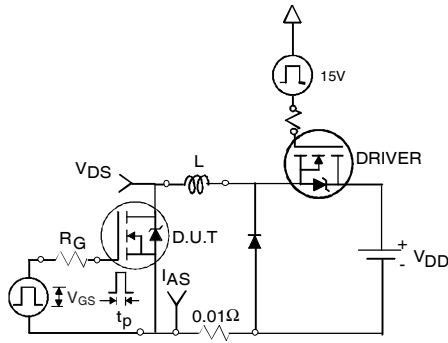

Fig 12a. Unclamped Inductive Test Circuit
- ③ Pulse width $\leq 1.0\text{ms}$; duty cycle $\leq 2\%$.
- ④ $C_{oss\text{ eff.}}$ is a fixed capacitance that gives the same charging time as C_{oss} while V_{DS} is rising from 0 to $80\% V_{DSS}$.
- ⑤ Limited by T_{Jmax} , see Fig.12a, 12b, 15, 16 for typical repetitive avalanche performance.
- ⑥ This value is determined from sample failure population, starting $T_J = 25^\circ\text{C}$, $L = 0.11\text{mH}$, $R_G = 25\Omega$, $I_{AS} = 75A$, $V_{GS} = 10V$.
- ⑦ This is only applied to TO-220AB package.
- ⑧ This is applied to D²Pak, when mounted on 1" square PCB (FR-4 or G-10 Material). For recommended footprint and soldering techniques refer to application note #AN-994.
- ⑨ TO-220 device will have an R_{th} value of 0.65°C/W .
- ⑩ R_{θ} is measured at T_J approximately 90°C .
- ⑪ Calculated continuous current based on maximum allowable junction temperature. Package limitation current is 160A. Note that current limitations arising from heating of the device leads may occur with some lead mounting arrangements. (Refer to AN-1140) <http://www.irf.com/technical-info/appnotes/an-1140.pdf>
3. Equation below based on circuit and waveforms shown in Figures 12a, 12b.